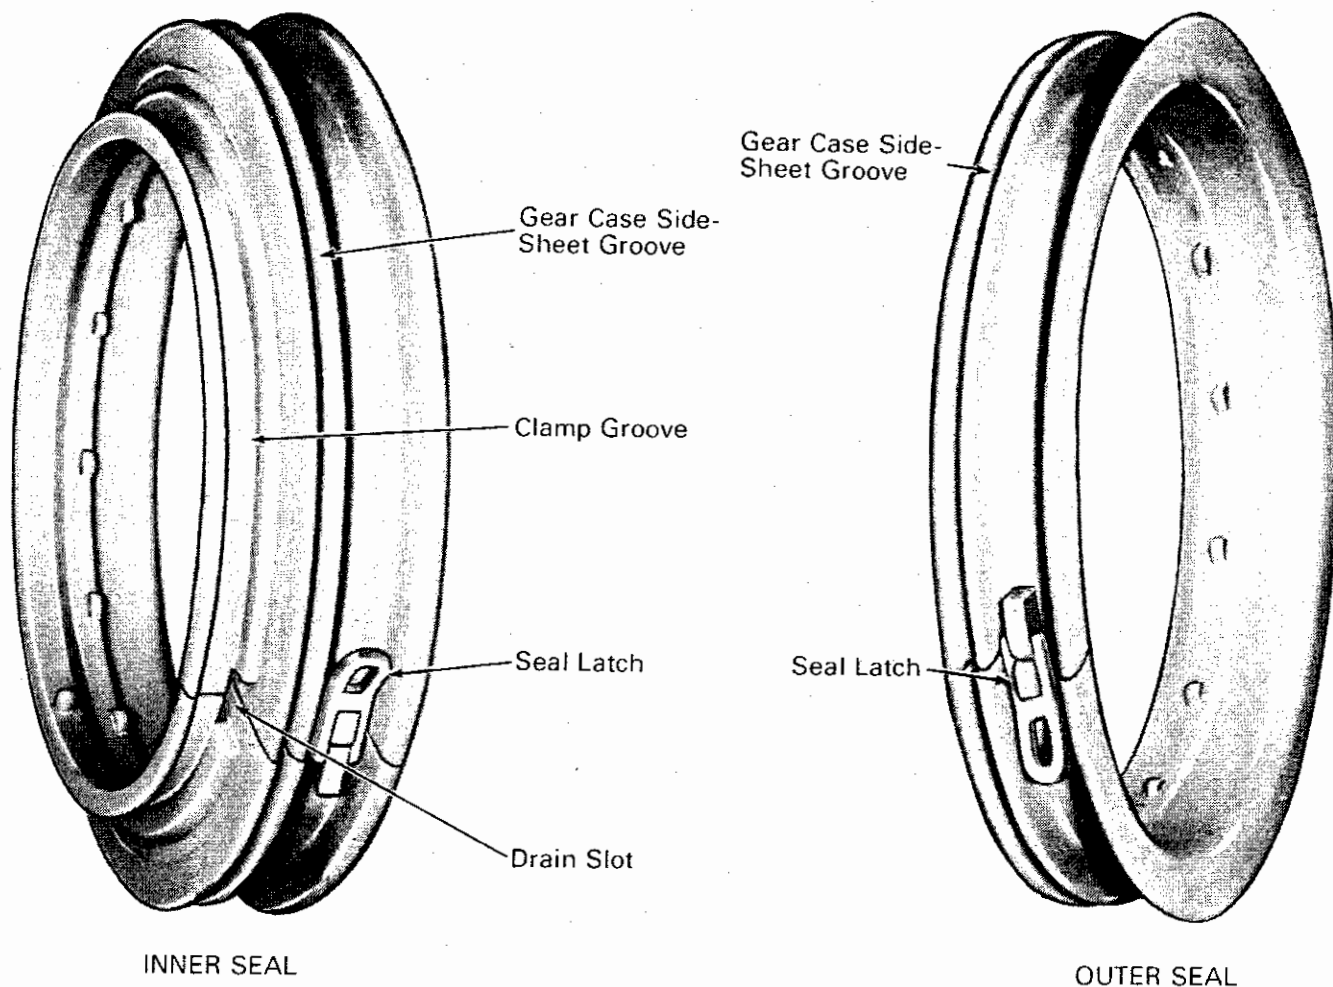

Fig.8 - Axle Bore Plastic Gear Case Seals
The plastic axle bore seals, Fig. 8, are installed around the locomotive axle after assembly of the motor axle wheel assembly, prior to the assembly of the gear case.
2. Apply RTV into the gear case side-sheet groove of each seal ring, Fig. 8.